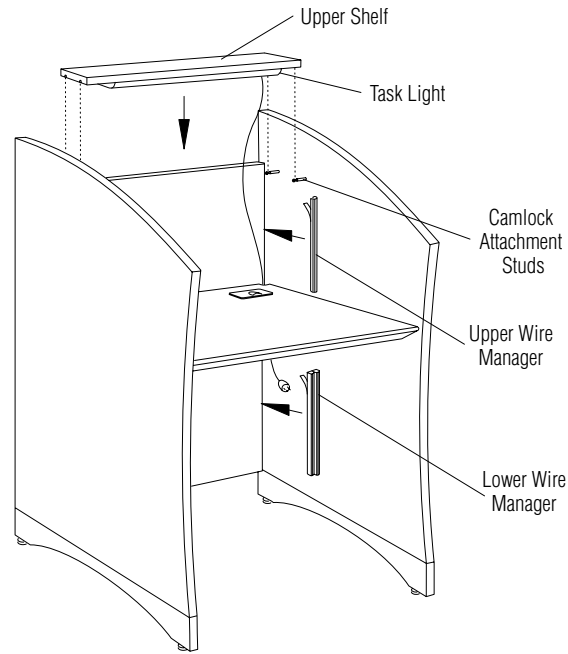

Figure 3
underside of the upper shelf with the electrical cord facing the back. Fasten with two 1" Phillips head screws per side. Turn shelf over and set onto upper shelf camlock studs (faceplate facing the front). Tighten. Thread the electrical cord into the notched corner of the worksurface. Attach self-adhesive upper wire manager into right corner of the carrel (flush to the worksurface) with the open edge to the inside of the carrel (Figure 3). For ADA height units, the upper wire manager needs to be slid into place from below the work surface. Place electrical cord inside the wire manager.
11. Attach self-adhesive lower wire manager to lower right corner of study unit. Place any electrical cords inside wire manager (Figure 3).